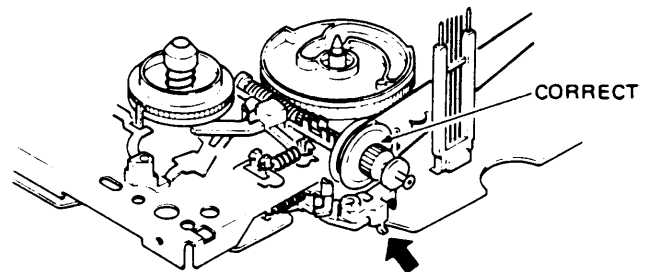

Fig. 1-1-8
2. Refer to Fig. 1-1-8 and confirm that the clutch is engaged.